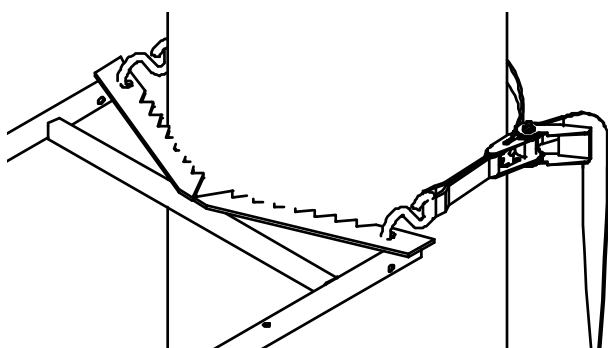

Figure 5a: Applies to RE607 and RE619
4. Standing on ladder step, lean toward tree with ratchet strap now in hand, hook "S" hook with long strap through hole provided on tree blade. Feed the long strap through the center (slot) of ratcheting mechanism and back around through tightening lever. **SEE FIGURES 5a/5b AND 6.**
Wrap entire ratchet assembly around tree and hook other "S" hook through opposite tree blade hole. Pull tail of long strap until most of the slack is taken out. Be sure entire strap is even and at the same level all around tree. "Ratchet" tight to tree, this will securely attach ladder to tree and prevent movement. **SEE FIGURES 5a, 5b, AND 7.**